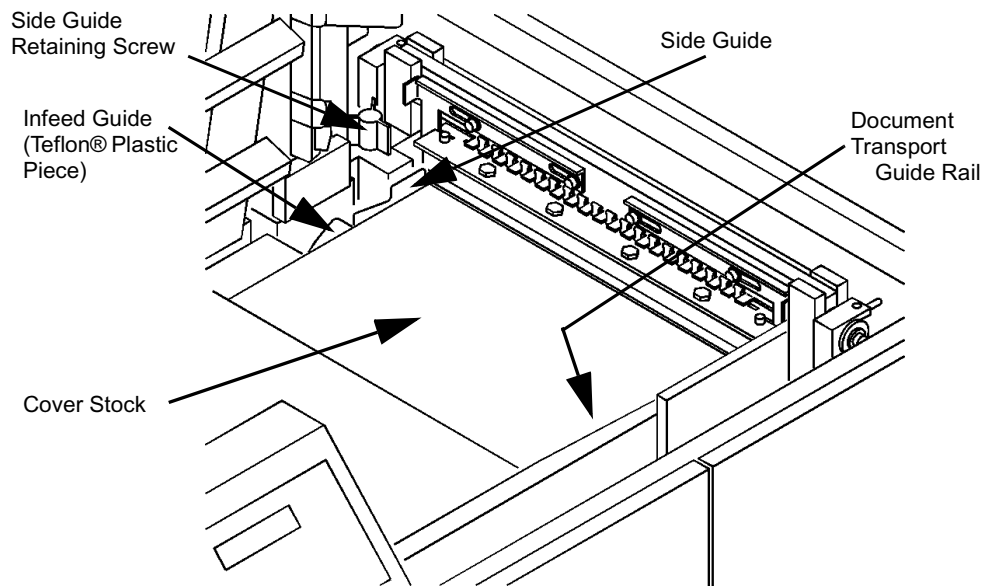

Figure 2-8: Adjusting the Side Guide
- 6 Ensure that the stock is against the Document Transport Guide Rail, as shown in Figure 2-8. If the stock is straight against the Document Transport Guide Rail and as close as possible to the Side Guide without actually touching it, go on to **Setting the Backgauge**. If the Side Guide is not as close as possible to the stock without touching it, go on to **Step 7** to adjust the Side Guide.
Note: When using the existing 11" Side Guide, ensure that the Side Guide is under the Infeed Guide (Figure 2-8) before continuing.